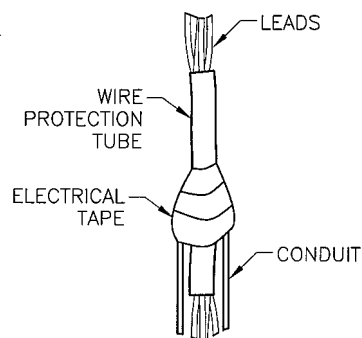

Figure 6
6. To help prevent damaging wires during installation, fit the wire protection tube provided in the Electrical Fitting Kit over wires and half way into conduit. (temporarily secure with adhesive tape) See Figure 6
7. Carefully guide free ends of motor leads through discharge riser and out through the 1" (F) NPT port.